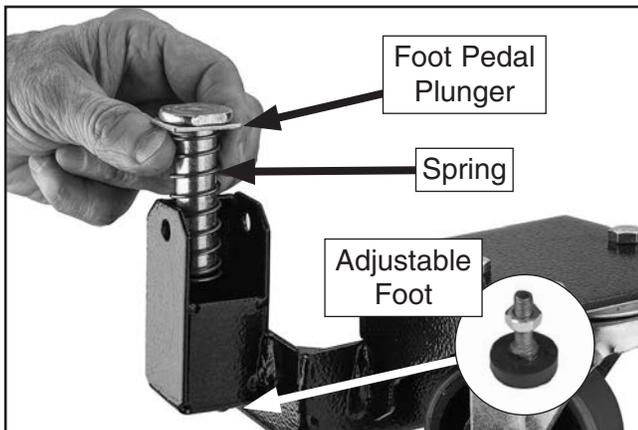

Figure 4. Installing foot pedal plunger and spring.
2. Install foot pedal plunger and spring into each front corner bracket and attach adjustable foot with M10-1.5 hex nut to the bottom of each foot pedal plunger (see **Figure 4**).